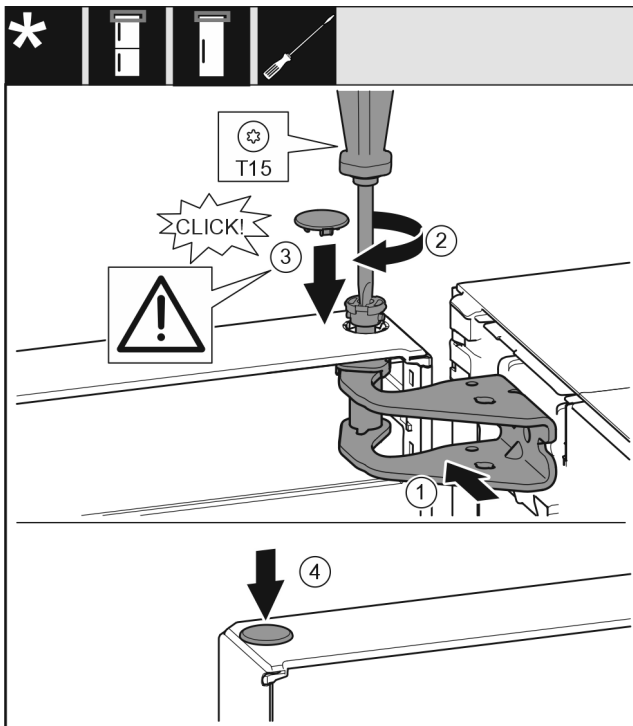

Fig. 18
- ▶ Align the top of the door with opening in the bearing bracket. Fig. 18 (1)
- ▶ Insert the bolt and tighten with a T15 screwdriver. Fig. 18 (2)
- ▶ Fit the protective cover to protect the door: Insert the protective cover and check that it is flush to the door. If not, insert the bolt fully. Fig. 18 (3)
- ▶ Insert the plugs. Fig. 18 (4)